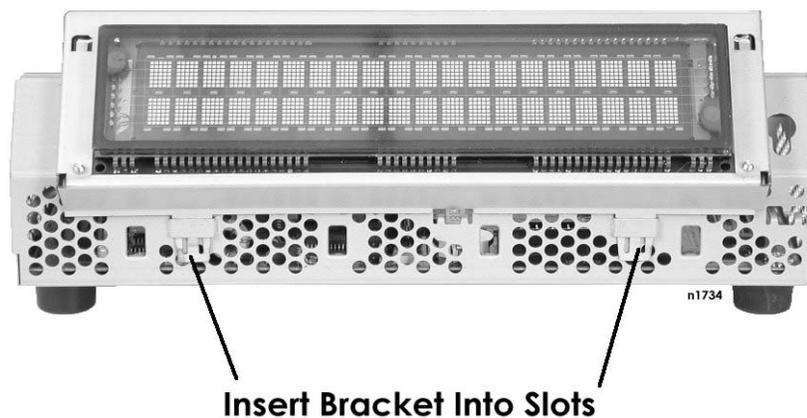

Figure 3-15: Inserting the Customer Display Bracket into the Chassis
4. Insert the customer display and bracket into the chassis slots as shown in Figure 3-15.